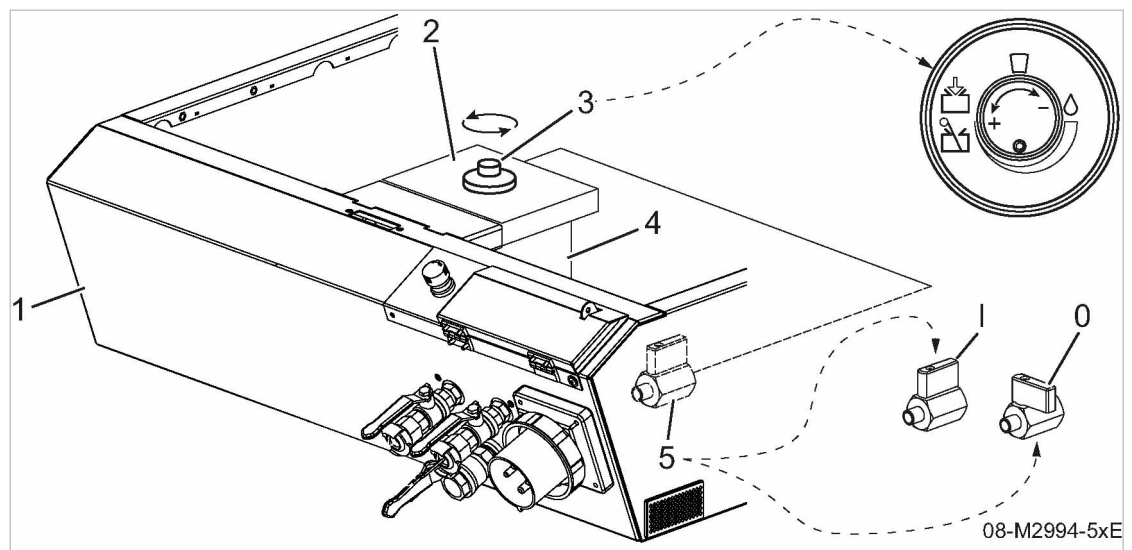

Fig. 24 Setting the tool lubricator
- Open the shut-off valve ⑤, see Fig. 24
- Close the shut-off valve, see Fig. 24